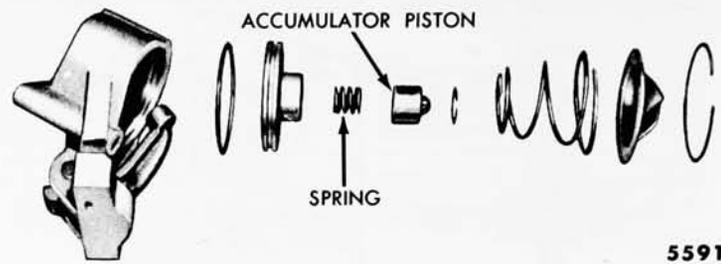

Fig. 16—Disassembled Rear Servo
(5) **REAR SERVO.** The rear servo assembly consists of a cast aluminum servo body, rear servo piston, accumulator piston spring, accumulator piston, rear servo release spring, and an actuating lever. The inner end of the actuating lever contacts the accumulator piston and the outer end engages one end of the rear band strut (fig. 16).